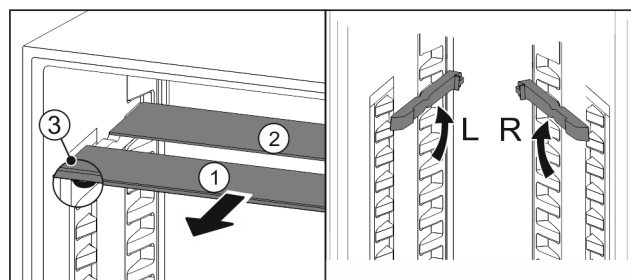

Fig. 59
- ▶ Pull the shelves out Fig. 59 (1) to the front one by one.
- ▷ The shelf Fig. 59 (1) with the trim strip is at the front.
- ▷ The stops Fig. 59 (3) point downward.